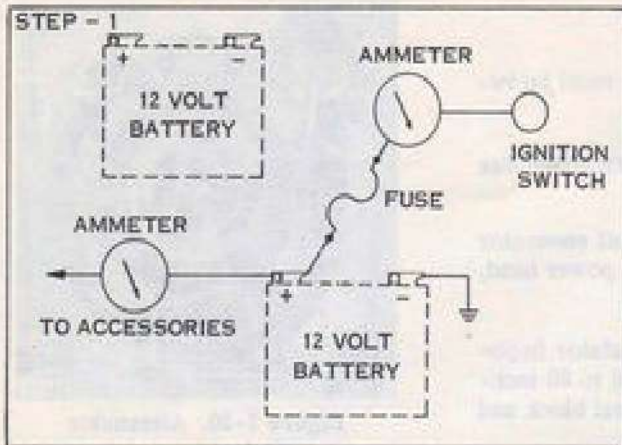

Figure 7-20. Alternator Stator Screws
- b. Disconnect stator leads at terminal board and charge coil connector to power pack. Remove three screws and lift stator from power head. See Figure 7-20.